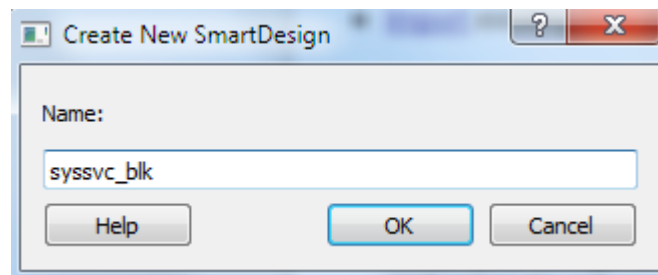

Figure 18 Create a New SmartDesign
22. This opens the new SmartDesign dialog box. Enter **syssvc_blk** as the name, as shown in Figure 18.